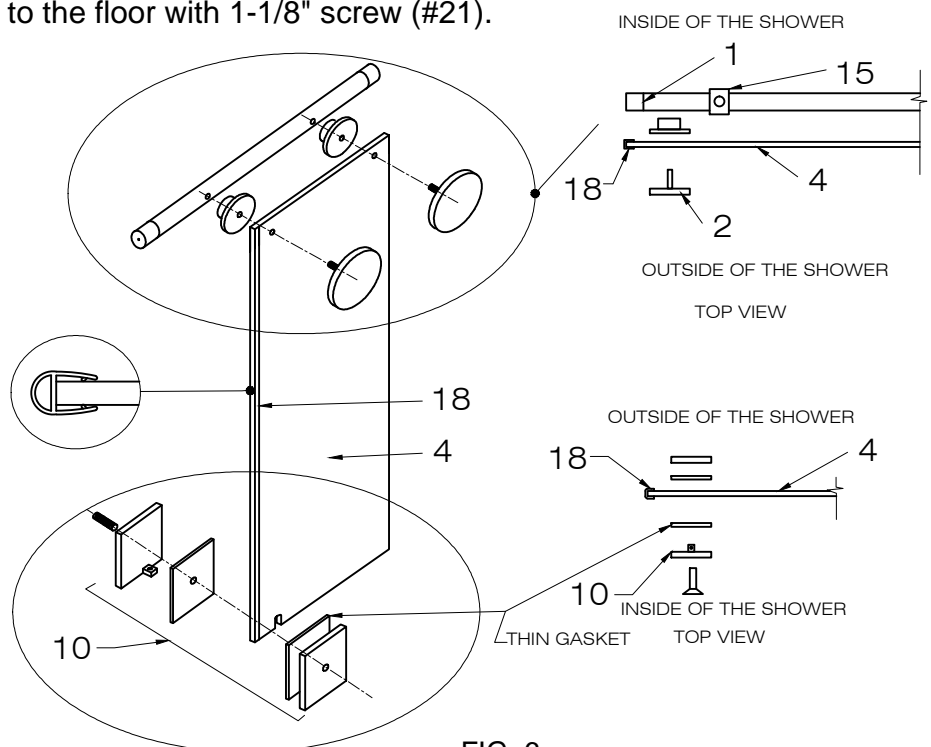
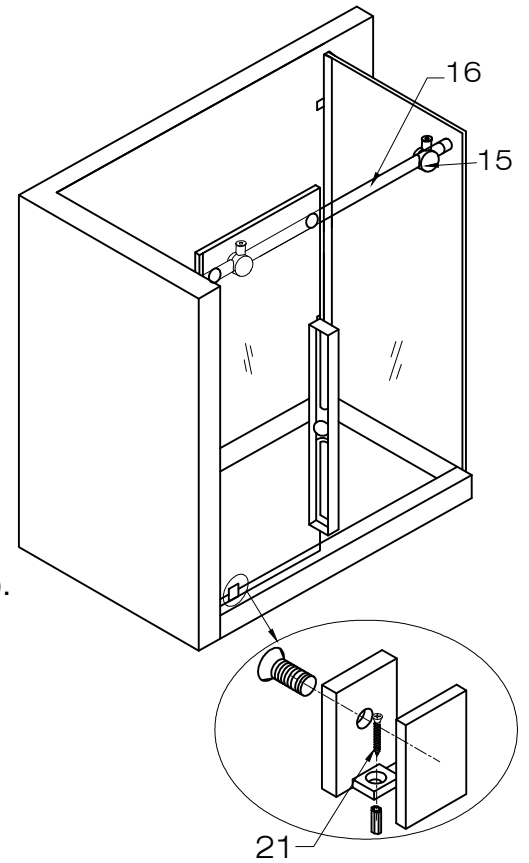

FIG. 6
FIG. 7
1. Screw the fixed panel bottom clip (#10) to the big front fixed panel (#4). Place thin gaskets on each side of the panel. [SEE FIG.6]
4. Screw the big front fixed panel to the structural rail (#16) with the fixed panel holders (#2). [SEE FIG.6 & FIG.7]
11. Screw the big front fixed panel to the structural rail with the fixed panel holders (FIG.6).